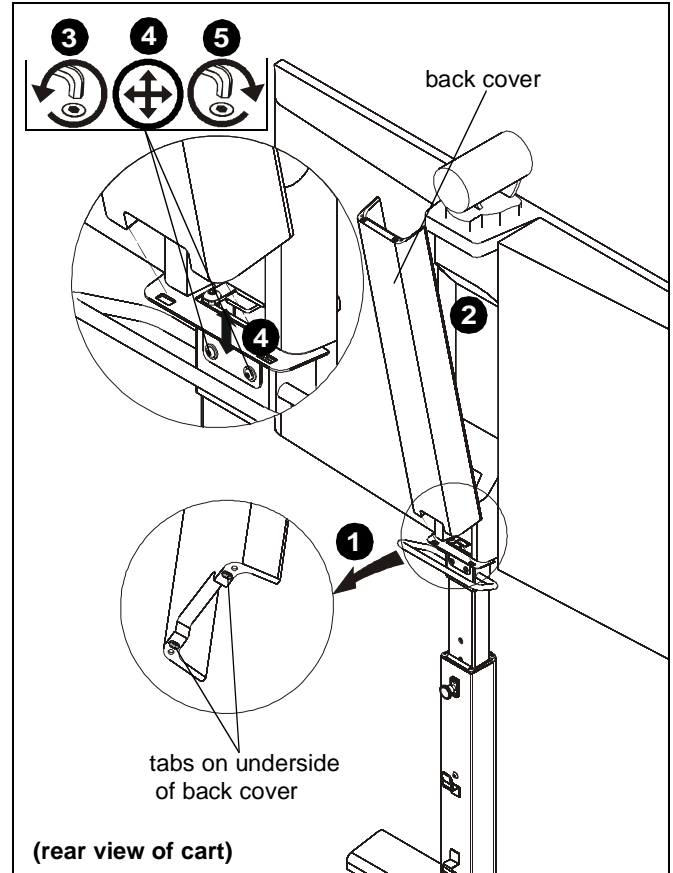

Figure 14
1. Place two tabs on underside of Cisco back cover (included with display) into two holes on bracket on back of column assembly. This bracket is located just above the cart handle. (See Figure 14)
2. Install Cisco back cover onto back of display by pushing it into position until it snaps into place. (See Figure 14)
3. Loosening screws holding back cover bracket to column assembly. (See Figure 14)
4. Adjust back cover bracket height up or down until Cisco back cover fits securely. (See Figure 14)
5. Tighten screws holding back cover bracket to column assembly. (See Figure 14)